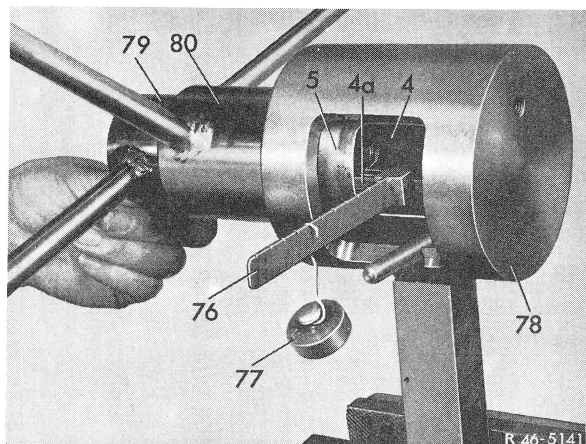

Fig. 15
14 Clamp working piston (5) in fixture (78) and adjust friction torque of steering nut in working piston, while placing measuring device (76) on straight-edge (4a) of steering nut. Friction torque is 6 – 10 Ncm (0.6–1.0 kpcm). Then tighten screw cover until weight on measuring device will just turn steering nut. Secure screw cover with slot nut, tightening torque 100–120 Nm (10 to 12 kpm) (Fig. 15).